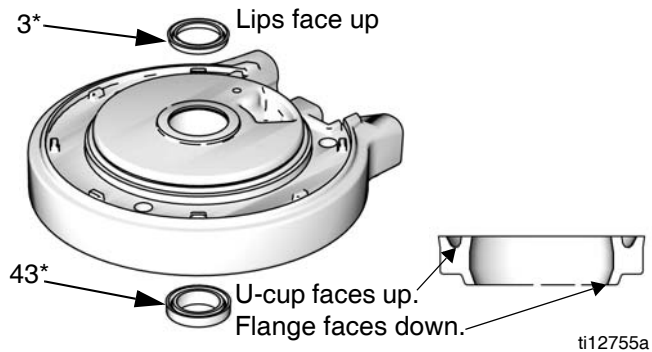

FIG. 12: Air motor u-cup installation
1. Lubricate and install the o-ring (9*) on the top cover (13).
2. **M07xxx, M12xxx, and M18xxx only:** Install the upper bumper (29) on the top cover (13).
3. Lubricate the inside of the cylinder (11). Lower the cylinder (11) onto the top cover (13).
4. Lubricate and install the o-ring (8*) around the piston (5).
5. Slide the piston assembly (5) down into the cylinder (11). Be sure the o-ring (9*) stays in place.
6. Install the shield (12) around the cylinder (11) and in the groove on the top cover (13).
7. See FIG. 12. Lubricate and install new u-cup seal with flange (43*) in the bottom of the bearing in the bottom cover (1). The u-cup must face up and the flange must face down. Lubricate and install new u-cup seal (3*) in the top of the bearing. Lips must face up.
3 U-cup faces up. Flange (bottom seal only) faces down. See FIG. 12, page 15.